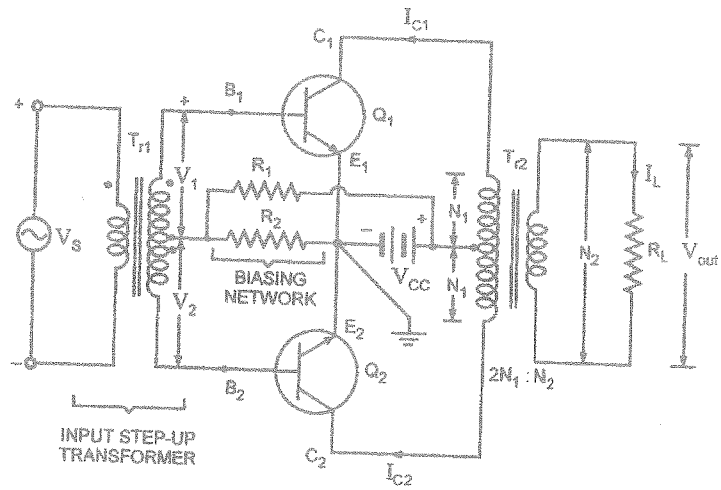

Figure Q4
d) Consider the idealized push-pull Class B power amplifier shown in Figure Q4. In the circuit $R_2 = 0 \Omega$, $V_{cc} = 20 \text{ V}$, $N_2 = 2 N_1$, $R_L = 20 \Omega$ and the transistor has $h_{fe} = 20$. The input to the circuit is a sinusoid. For the maximum output signal, $V_{max} = V_{cc}$. Determine,